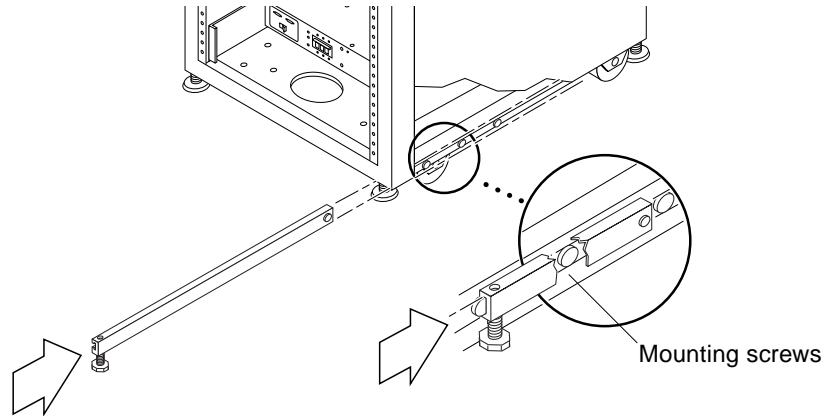

FIGURE 3-3 Installing the Right Stabilizer Leg
2. Slide the right stabilizer leg over the three mounting screws at the bottom of the system (FIGURE 3-3).